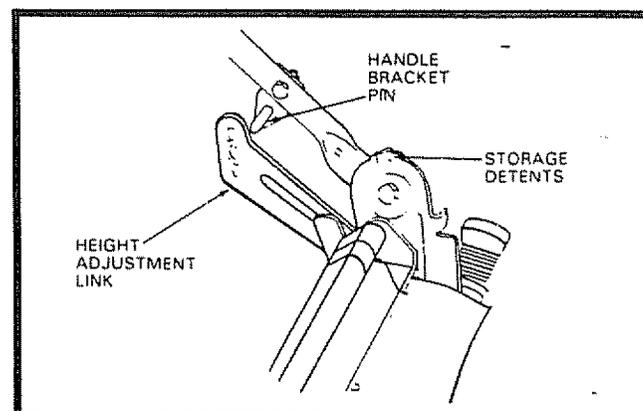

FIG. 2
- Raise Lower Handle section until it is in the upright storage detents (See Fig. 2).
- Lower the entire Handle Assembly to the mowing position and engage the Height Adjustment Links onto the Handle Bracket Pins (See Fig. 2). See "Adjust Handle" section, page 16 to select the most comfortable Lawn Mower Handle position. Be sure both sides are in same adjustment hole.